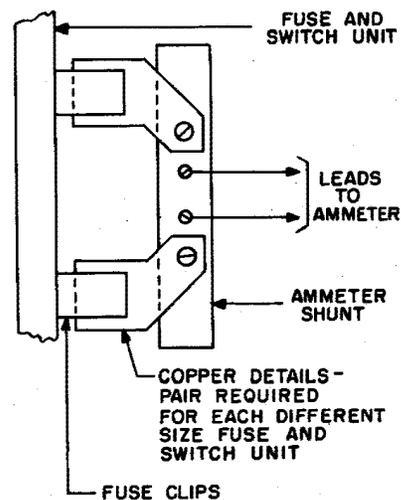

Fig. 1 - Shunt Applique for Fuse and Switch Unit
4.03 Fig. 1 shows a suggested means of assuring dependable connections when using an ammeter shunt. If necessary to support the weight of the shunt and copper details, or if the shunt applique unit is to remain in place for some time to permit several readings, a fuse clip clamp is suggested to hold the copper details in the fuse clips.